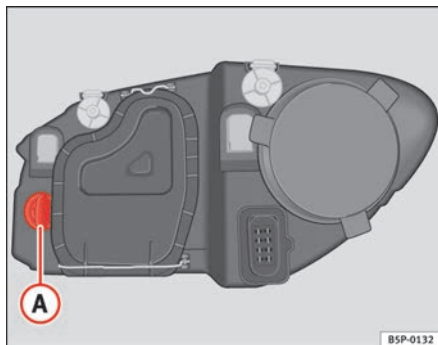

Fig. 180 Turn signal lamps
- Rotate the lamp holder ⇒ fig. 180 **A** to the left and pull.